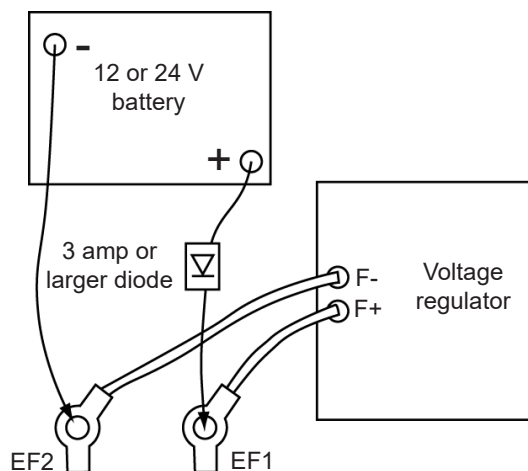

Figure 17 Field Flashing Setup with Field Wires Connected to Regulator
6. Start the generator, and check for voltage build up. Reflash if the generator output voltage does not build up, or flash with the generator running, the field coil wires connected to the regulator, and a 3-amp or larger diode off the positive terminal of the battery per Figure 17.